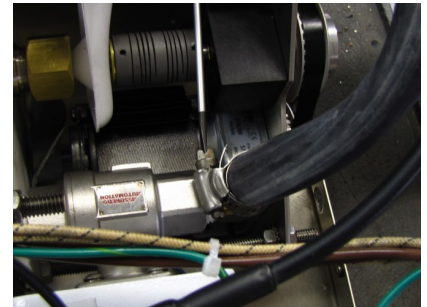

Figure 3
3. Loosen the hose clamp which connects the black tubing to the valve. Use a flat head screwdriver as shown in Figure 3.